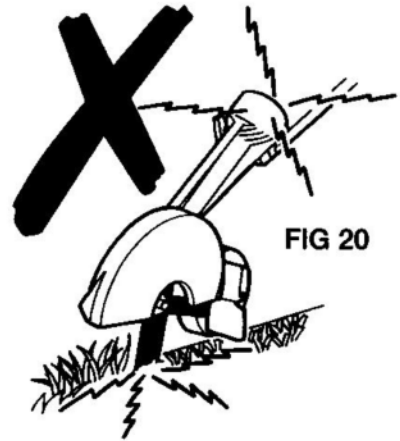

FIG 20
9. If blade jams or stops in the ground (Fig. 20), lower handles or pull back unit and recommence. Engine speed should be full throttle under load with blade rotating.